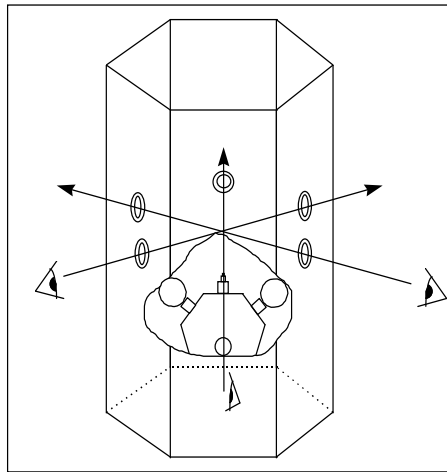

Figure 3-43
- c. Sight through the center of 3 adjacent lens sections (Figure 3-43) and check to see if the tip of the focus fixture is centered in the sighting marks (a white sheet of paper held behind the lens is helpful if the background is dark). Do not rotate the lens cage to line up sight marks; keep beacon stationary and move around it.